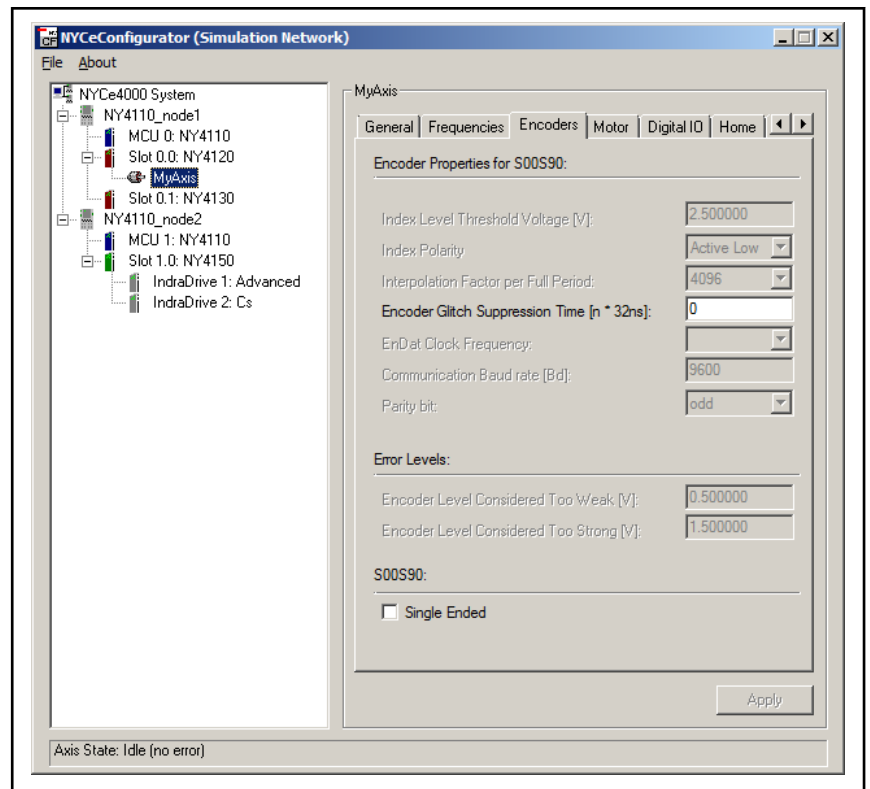

Fig. 2-21: Position interface settings
9. Depending on the selected position interface, you have to specify information about the encoder. In this example, the selected position interface is an S0S90 encoder. On the "Encoders" tab is for this encoder one option that must be set according to the hardware configuration of the encoder. Normally, the S0S90 will be connected hardware-wise using differential signals, but if you connect the encoder hardware-wise single ended, you must put a check mark in the "Single Ended" check box, see fig. 2-21 "Position interface settings" on page 35. See chapter 3.7 "Configuration at the axis level" on page 82 for more information about the different encoder settings.